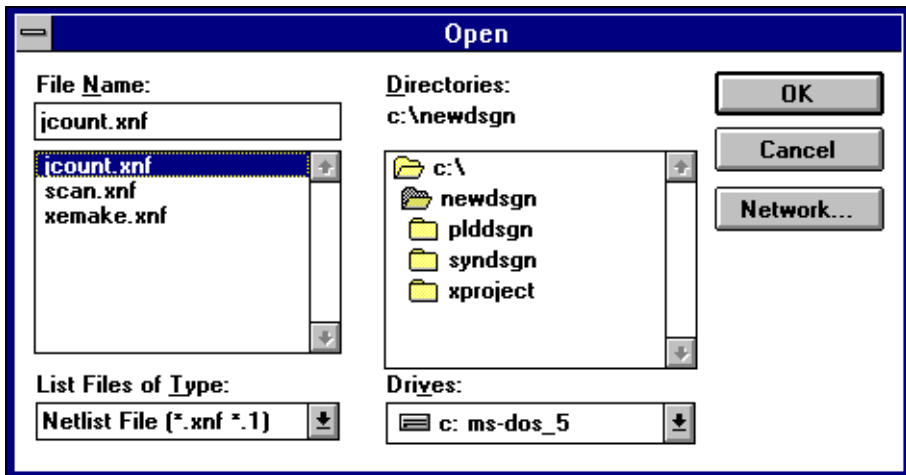

Figure 1-5 New Project Browser
4. Select the Browse button to the right of the Input Design field. The Open browser window appears as in Figure 1-5.